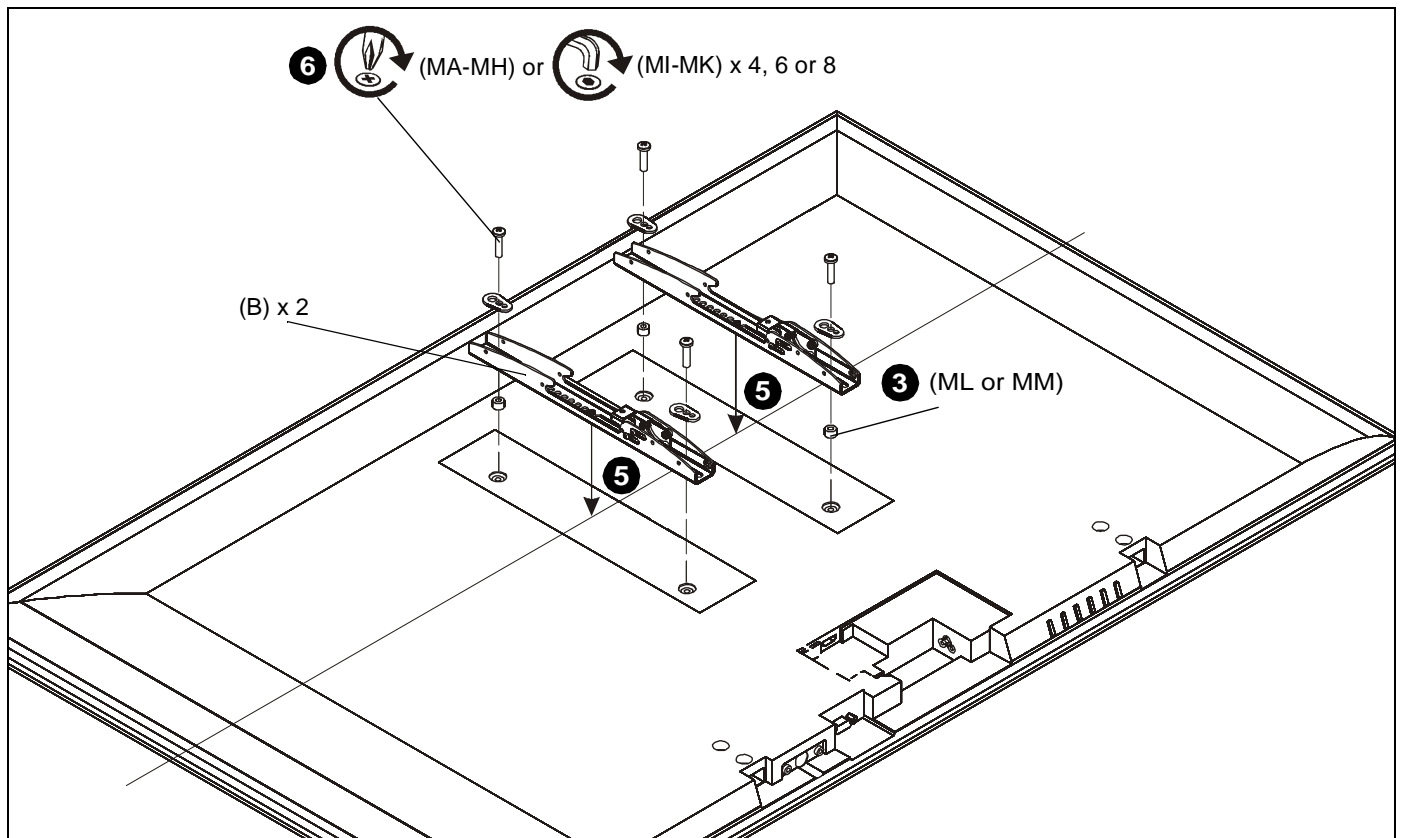

Figure 4
2. Select screw *diameter* by examining hardware (MA-MK) (4mm, 5mm, 6mm or 8mm) and comparing with mounting holes on display. (See Figure 4)
3. Select spacers: (See Figure 4)
- If mounting holes are not recessed and both uprights (B) can lay flat against display, then no spacers are required.
- If mounting holes are recessed, or if protrusions prevent uprights (B) from laying flat, then spacers (ML or MM) must be used.
4. Select screw *length*: (See Figure 4)
- Using your hand, insert **SHORTEST** length screw of selected diameter (MA, MD, MG or MI) through universal washer (MN), uprights (B), selected spacer (ML or MM), into display mounting hole. Do **NOT** thread screw into hole at this time.
5. Place uprights (B) on display, ensuring: (See Figure 4)
- Center of uprights (B) are as close to the center of the back of display as possible after being installed. Center of bracket is indicated by the diamond-shaped hole.
6. Use selected screws and spacers to install two interface uprights (B) to back of display. (See Figure 4)